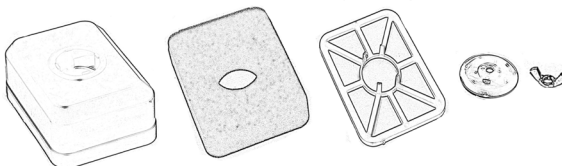

Figure 21
- Carefully wring out the filter and allow it to dry. Fig. 21.